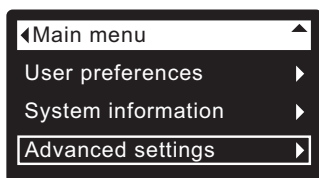

FIG. 70
1. From any of the rolling status screens, press the SELECT (O) button to display the **Main menu**.
2. Press the DOWN (▼) button to scroll through the menu options until **Advanced settings** is highlighted (See Figure 70).